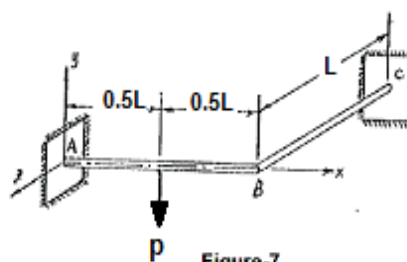

Figure-7
- (a) Determine rearranged joint stiffness matrix for the grid shown in **figure-7**. Both members have same torsional rigidity and flexural rigidity. Take $GJ = 0.8EI$. Consider $P = 10\text{kN}$ and $L = 4\text{m}$. **07**